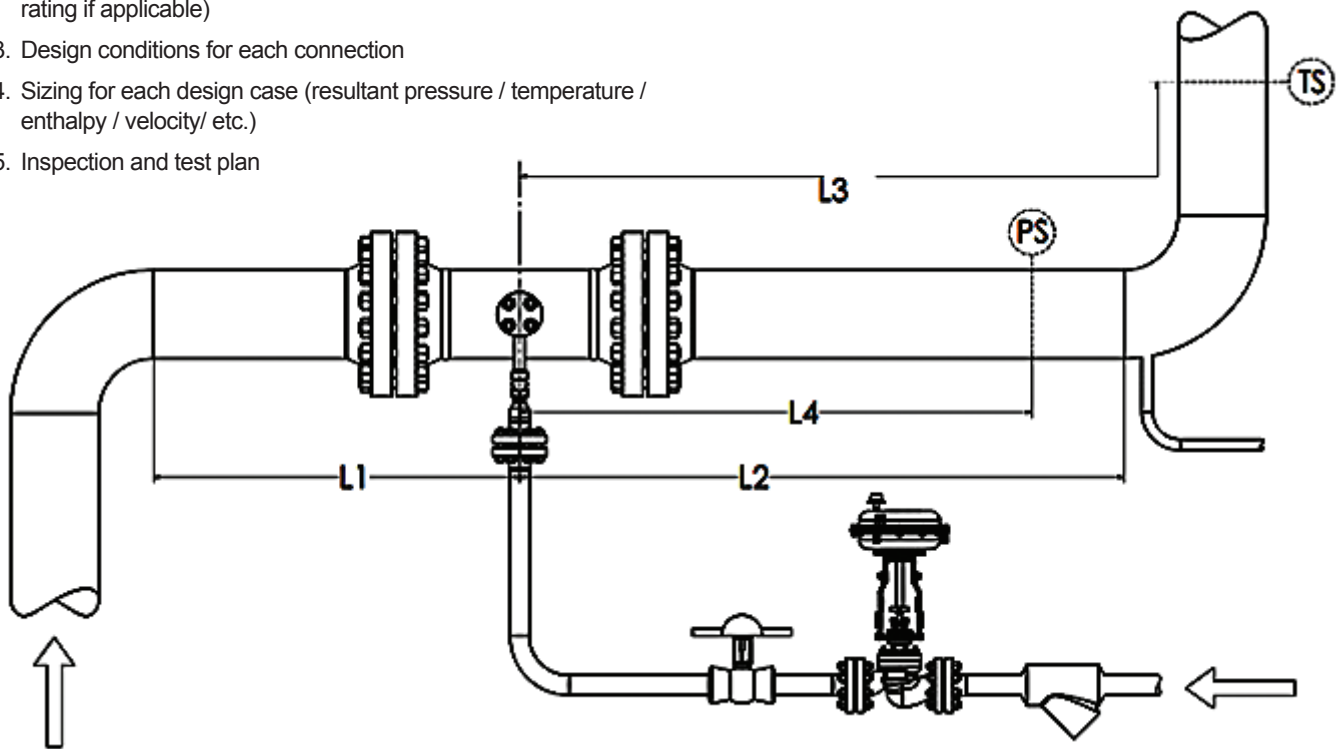

Figure 20 - Complete Desuperheater Piping System Layout
Desuperheaters perform best with uniform steam flow at the point of spray water injection. Piping interruptions directly upstream, such as piping tees and elbows, can produce flow irregularities which can lead to performance issues. Baker Hughes recommends maintaining a minimum distance, L1 (as shown in Figure 20), of five pipe diameters of straight pipe length upstream of the desuperheater. If this recommendation cannot be met, shorter distances may be acceptable upon application review.
Downstream considerations are more complex due to the addition of spray water. It is recommended to provide enough straight pipe length downstream of the spray nozzles to ensure enough water vaporizes prior to major piping interruptions. This length, L2 (as shown in Figure 20), is calculated using Masoneilan's sizing and selection software, and is limited to fifteen pipe diameters. Pipe bends after this point are encouraged because they promote further mixing of water and steam.
To achieve SIL3, it is recommended to install three (3) temperature sensors downstream of the desuperheater for 2-out-of-3 voting. The temperature sensor should be located far enough downstream where water is sufficiently absorbed into the steam. This length, L3 (as shown in Figure 20), is calculated using Masoneilan's sizing and selection software, or an approximate minimum of 33 ft (10 meters). If this recommendation cannot be met, shorter distances may be acceptable upon application review, and may better be controlled using alternative algorithm control.
The pressure sensor location, L4 (as shown in Figure 20), must be located at a point downstream where flow has stabilized. The recommended installation point is five pipe diameters downstream of the outlet connection or any pipe elbows.